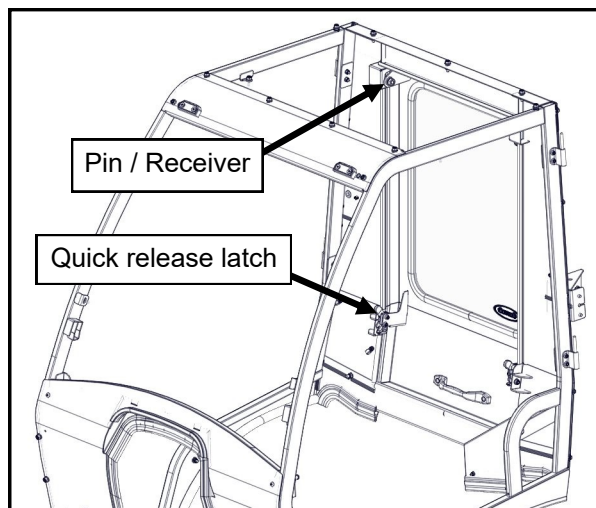

Fig. 22.1 (Rear Panel Installation)
**22.1** Lift rear panel and insert the upper pins into the receivers on the rear legs. Engage the lower quick release latches at this time. See Fig. 22.1.
*Note: The quick release latches require (2) clicks to be fully locked. Press the rear panel in from the outside in these locations to double click the latches.*